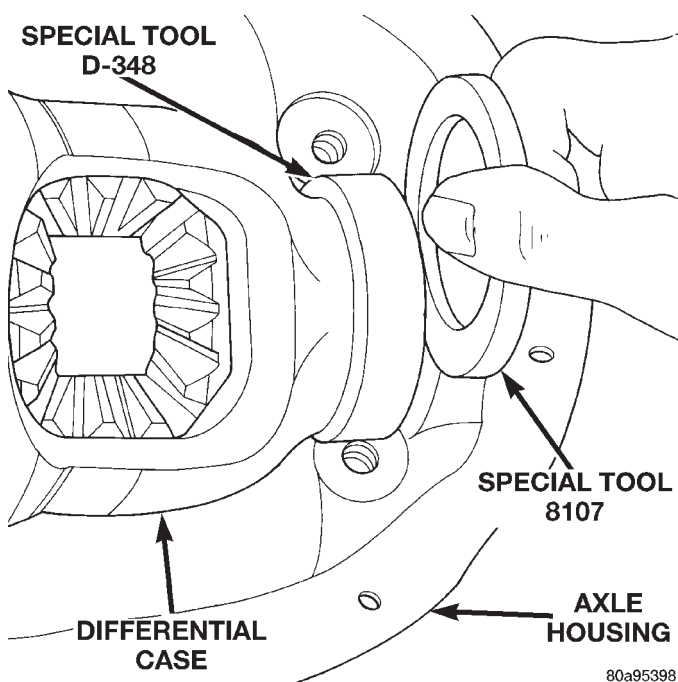

Fig. 71 Insert Starting Point Shims
- (1) Remove side bearings from differential case.
- (2) Install ring gear, if necessary, on differential case and tighten bolts to specification.
- (3) Install dummy side bearings D-348 on differential case.
- (4) Install differential case in axle housing.
- (5) Insert Dummy Shims 8107 (0.118 in. (3.0 mm)) starting point shims between the dummy bearing and the axle housing (Fig. 71).